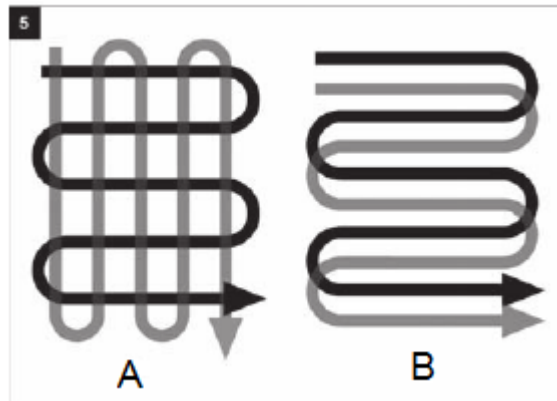

Fig. 5
- For preparing seed beds, we recommend using one of the tilling patterns shown in Fig. 5.